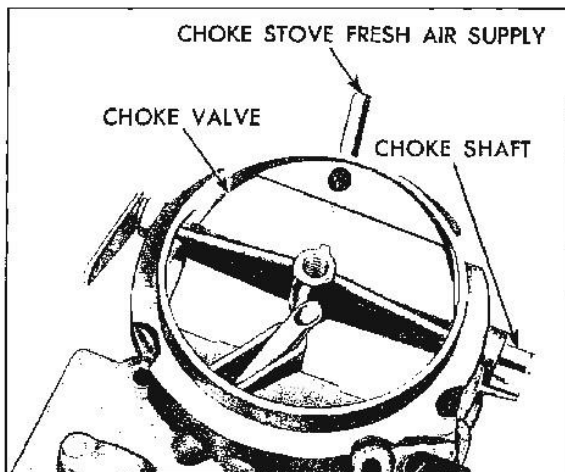

Fig. 6B-56 Choke Valve and Shaft Installed
1. Install choke shaft in air horn, then install choke valve on choke shaft, using two attaching screws. Letters RP on choke valve should face towards top of air horn (Fig. 6B-56). Center choke valve before tightening screws, by installing the fast idle lever and choke trip lever. Maintain approximately  $.020''$  clearance between the fast idle lever and air horn casting. Then tighten choke valve screws and "stake" lightly. Then install choke trip lever and fast idle lever. Choke valve should move freely in housing.
2. Replace pump outer lever and shaft assembly and inner lever, tighten retaining screw on inner lever (Fig. 6B-57).